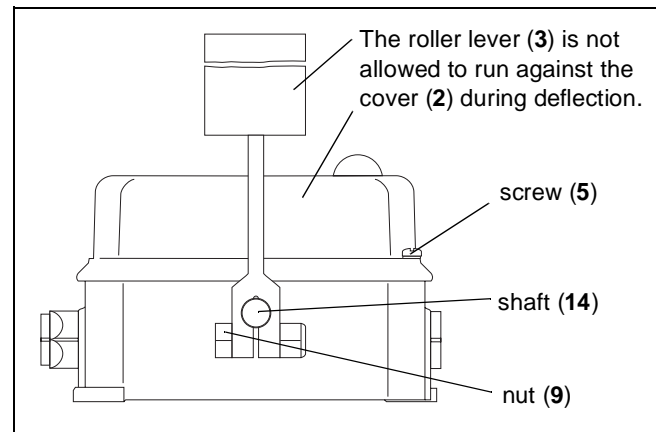

Fig. 5-3: Mounting belt misalignment switches on the belt conveyor
- Open the cover (2) of the belt misalignment switch by loosening both screws (5) (see Fig. 5-3).